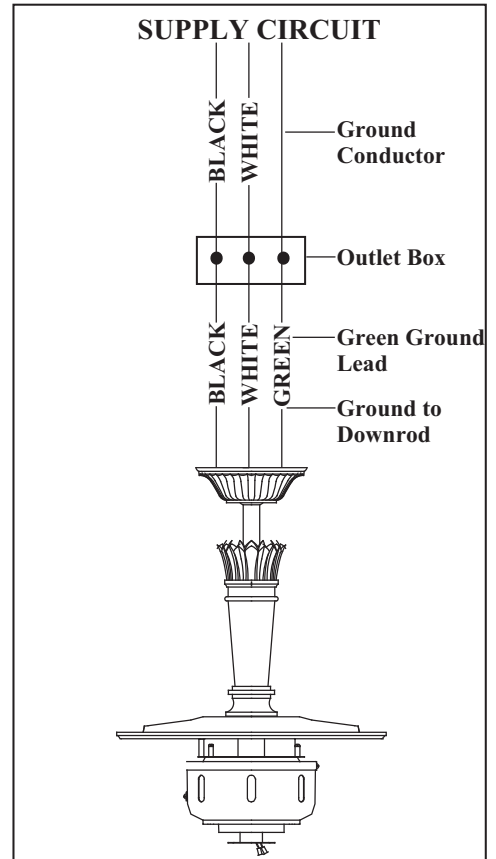

Figure 9
1. Connect the fan supply (black) wire to the black household supply wire as shown in Figure 9.